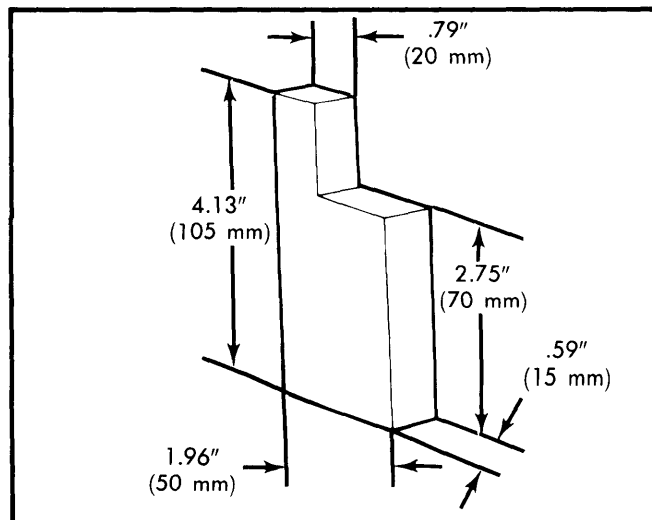

Fig. 4 Selector Rod Spacer Dimensions
9) Place shift shaft and lever in 4th gear position. Pull selector rod down onto shift shaft, align holes in selector housing and shift lever. Lock in position with .16" (4 mm) pin. Insert suitable spacer between floor pan and selector rod. See Fig. 4 for dimensions of spacer.